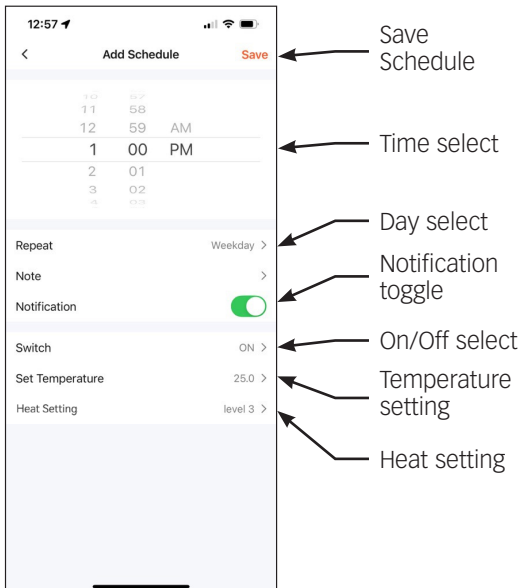

Fig. 5
4. Enter the desired time in the Time field for when you want the heater to switch on or off (see Fig. 5).